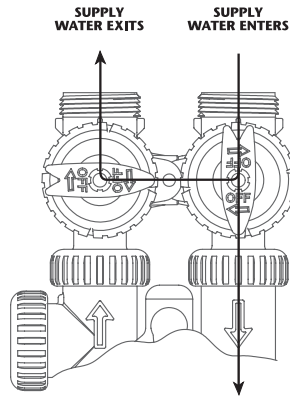

FIGURE 3
3. **DIAGNOSTIC POSITION:** The inlet handle points toward the control valve and the outlet handle points to the center of bypass valve. Untreated supply water is allowed to flow to the system and to the building, while not allowing water to exit from the system to the building (**Fig. 3**). This allows the service technician to test the unit and perform other functions without disrupting the water going to the building.